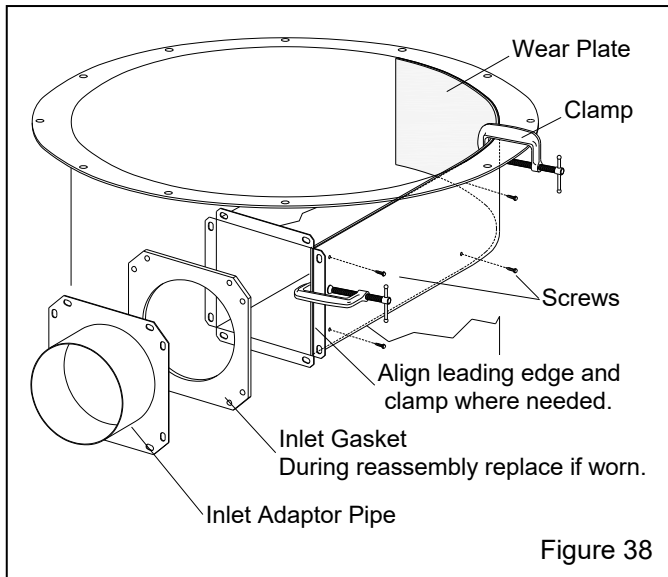

Figure 38
### 7.12 Replacing Reclaimer Wear Plate – Figure 38
**7.12.7** Angle the new wear plate into the reclaimer inlet and position it so the straight end is flush with the inlet. Use locking pliers, clamps, or other means where needed to pry the wear plate against the side of the inlet and inner wall, as shown in Figure 38. Make sure the leading edge of the wear plate is aligned with the reclaimer inlet and that the top edge is even with the top of the reclaimer.